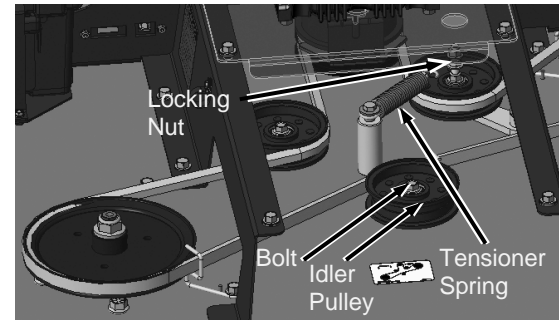

Figure 56
7. Looking down through the hole where the Cap was removed, remove Lock Nut from Tensioner Pulley using a 9/16 in Wrench (**Figure 56**).
7. Ensure Belt is engaged around rear Idler Pulley (**Figure 56**).